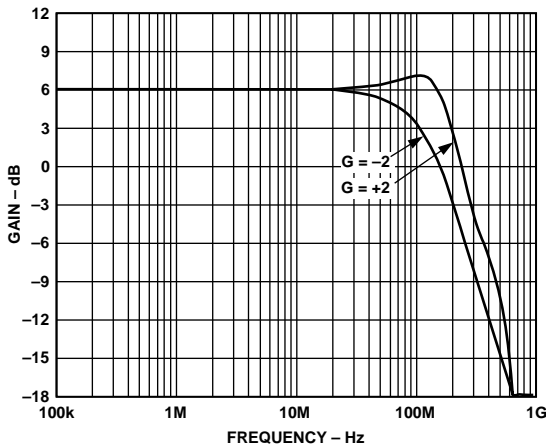

Figure 11. AC Response of Two Identically Compensated High-Speed Op Amps Configured for Gain of +2 and -2
3. Match bandwidth in gain blocks with different noise gains, such as when designing differential amplifiers (as shown in Figure 11 of the Applications section).
The AD8021 is uniquely suited as a low-noise differential driver for many ADCs, balanced lines, and other applications requiring differential drive. If pairs of internally compensated op amps are configured as inverter and follower, the noise gain of the inverter will be higher than that of the follower section, resulting in an imbalance in the frequency response (see Figure 11).